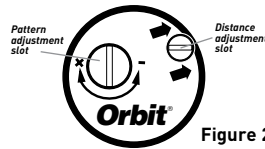

Figure 2
2. Insert a flat bladed screwdriver into the pattern adjustment screw (Figure 2).
1. Insert a small flat bladed screwdriver key into the distance adjustment slot (Figure 2).